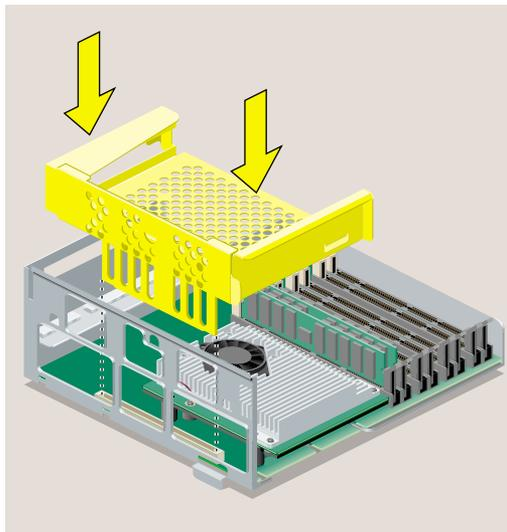

Figure 2-44 Replacing the R10000 PCI Tray in the System Module
- Lower the PCI tray, engaging it on the tab on the side of the system module (Figure 2-44).